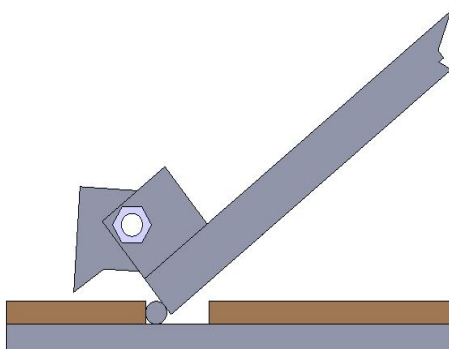

Fig.22
2. To lift a vehicle: lay the roller flat. The vehicle can be maintained only when the lift is raised to the proper height and the safety bar is secured in the locking position (see fig 22).